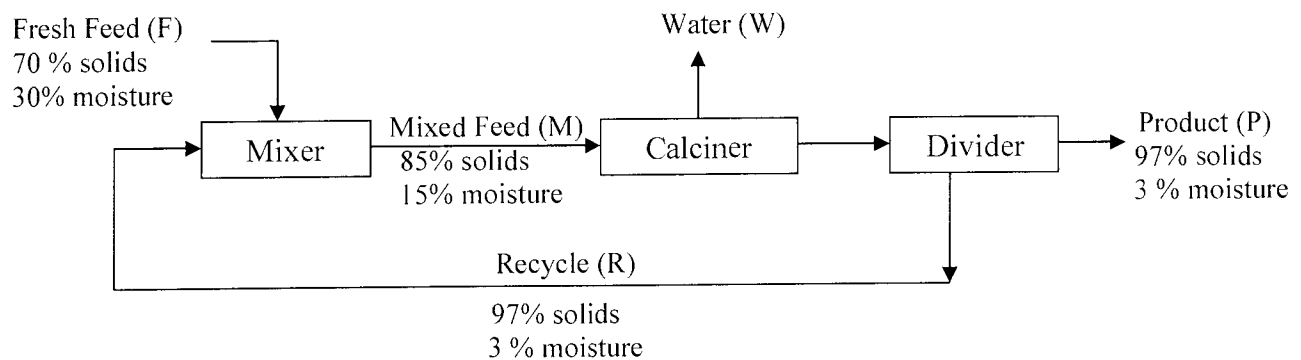

Figure 1: Drying of solids
**Q.3** Chlorobenzene ( $C_6H_5Cl$ ) is nitrated using a mixture of nitric acid ( $HNO_3$ ) and sulphuric acid. During the pilot plant run, a charge (feed) consists of 100 kg chlorobenzene (CB), 106.5 kg of nitric acid of 65.5 % strength, 108 kg of sulphuric acid of 93.6 % strength. After two hours of operation, the final product mixture was analysed and found to contain 2 % unreacted chlorobenzene. Also the product distribution was found to be 66 % paranitrochlorobenzene (P-NCB) and orthonitrochlorobenzene (O-NCB) by weight.
**Q.4** In a drying operation, it is necessary to maintain moisture content of feed to a calciner at 15 % by weight in order to prevent lumping and sticking. This is achieved by mixing the feed having 30 % by weight moisture with a recycle stream of dried material having 3% by weight moisture. The drying operation is shown in figure1 given below. **(10)**